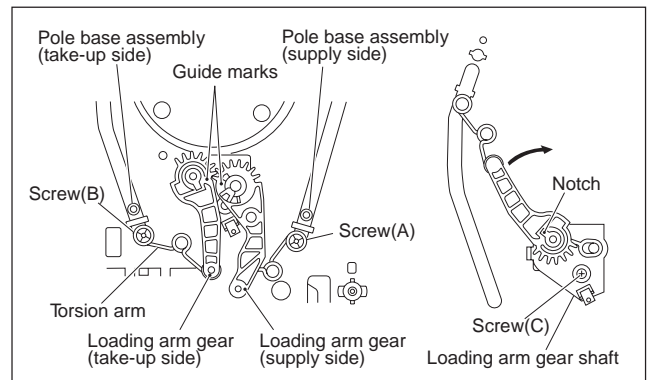
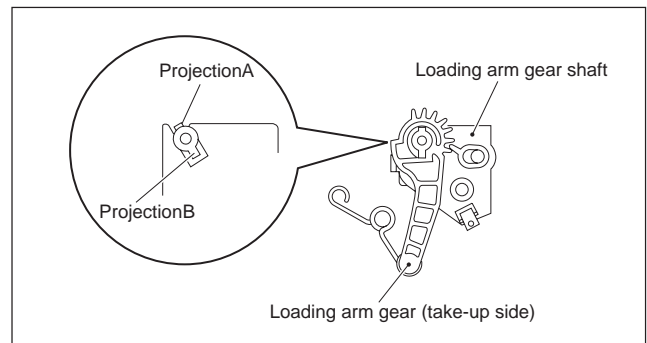

Fig.3-2-16a
Fig.3-2-16b
- (1) Remove the loading arm gear (supply side) by loosening the screw (A). (See Fig. 3-2-16a.)
- (2) Remove the screw (B) and remove the torsion arm from the pole base assembly (take-up side). (See Fig.3-2-16a.)
- (3) Turn the loading arm gear (take-up side) clockwise so that the notch of the loading arm gear (take-up side) is in alignment with the projection of the loading arm gear shaft and lift it.
Likewise, turn the loading arm counterclockwise so that the notch is in alignment with the projection and remove the loading arm gear (take-up side). (See Fig.3-2-16a and Fig. 3-2-16b.)
- (1) Align the notch of the loading arm gear (take-up side) to the projection B of the loading arm gear shaft and slip it over. Then rotate it clockwise for alignment with the projection A and slip it down to the bottom. (See Fig.3-2-16b.)
- (2) Then turn the loading arm gear (take-up side) counterclockwise. Hang the torsion arm on the pole base assembly (take-up side) and tighten the screw (B).
- (3) Install the loading arm gear (supply side) so that the guide mark of the loading arm gear (take-up side) is in alignment with the guide mark of the loading arm gear (supply side). Then hang the torsion arm on the pole base assembly (supply side) and tighten the screw (A). (See Fig.3-2-16a.)